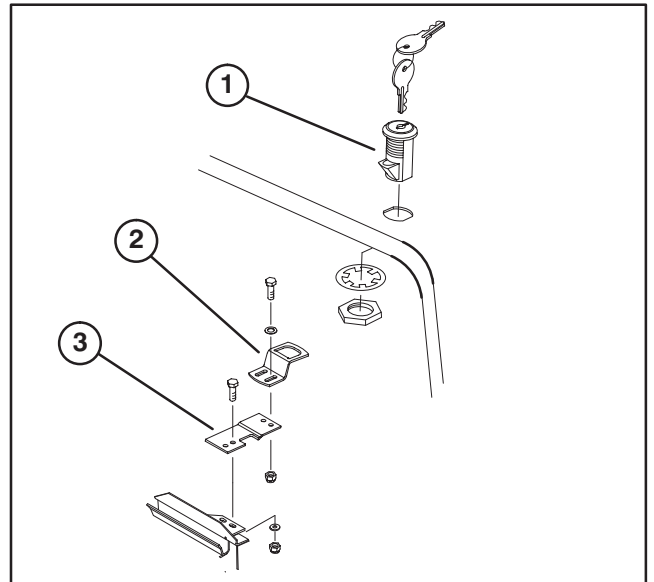

Figure 2
3. Mount locking latch to hood with lock washer and nut. Position switch with latch toward front of machine (Fig. 2).
4. Loosely mount latch strap to radiator support with (2) 1/4-20 x 3/4" lg. capscrews, flat washers and locknuts (Fig. 2).
5. Loosely mount latch bracket to latch strap with (2) 1/4-20 x 3/4" lg. capscrews, flat washers and locknuts (Fig. 2).
INSTALL CUTTING UNITS (Fig. 2–8)